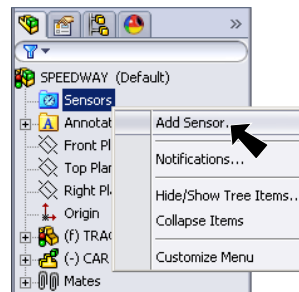

Fig. 12
Step 1. **Right click Sensors**  in the Feature Manager and click **Add Sensor** from the Content toolbar, Fig. 12.